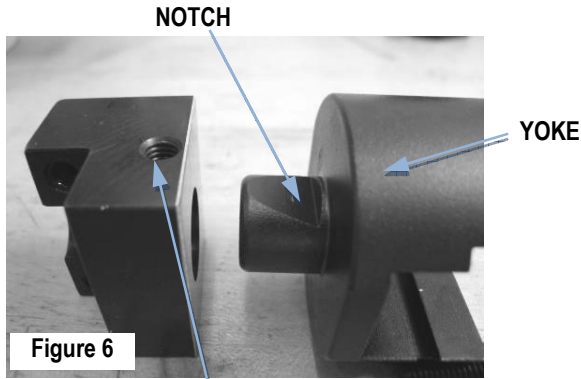

Figure 6
- Assemble the JST\* yoke and JST\* yoke adapter. The notched side of the yoke shoulder is oriented towards the side of the adapter that has the threaded hole. The yoke is held in the adapter with (2) M6 set screws (doubled). See Figures 6 and 7.